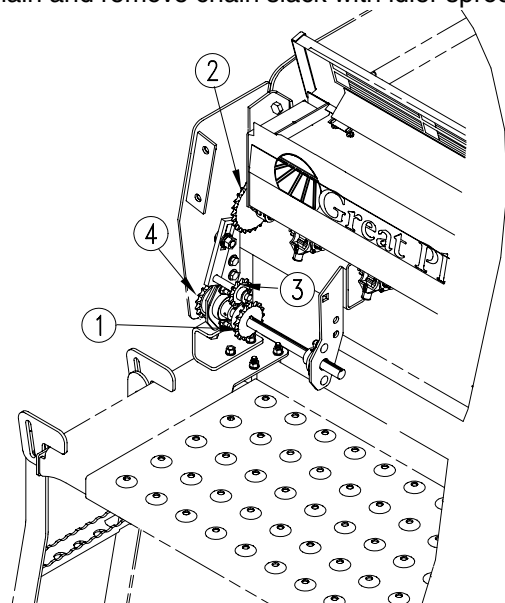
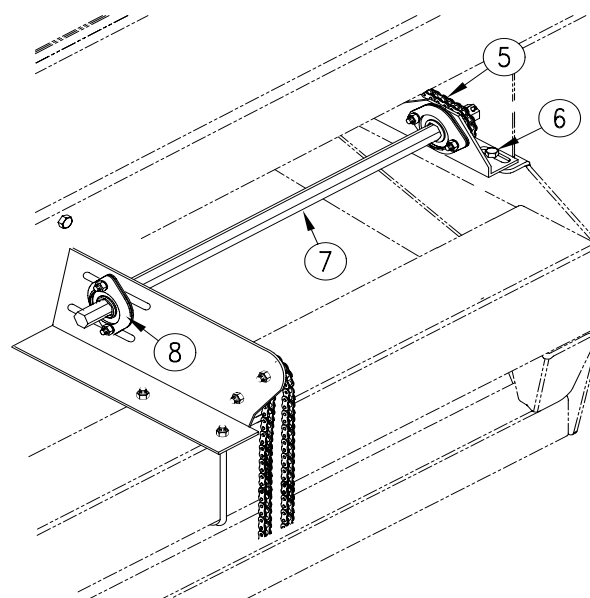

Figure 5
Figure 6
Refer to Figure 5
Refer to Figures 5 and 6
2. Thread 98-pitch chain back through the cutout in box, around outer 17-tooth sprocket (4), figure 5, and back to front 12-tooth sprocket (5), figure 6. After connecting chain, check alignment of sprocket (1), figure 5, on rear of drill with sprocket (5), figure 6, at front. Move rear sprocket if needed. To tighten this chain move 7/8" hex jackshaft (7), figure 6, forward by using slots in bearing plate (6), figure 6, and slots at bearing (8), figure 6. After removing excess slack, tighten bolts holding the plate and bearing.